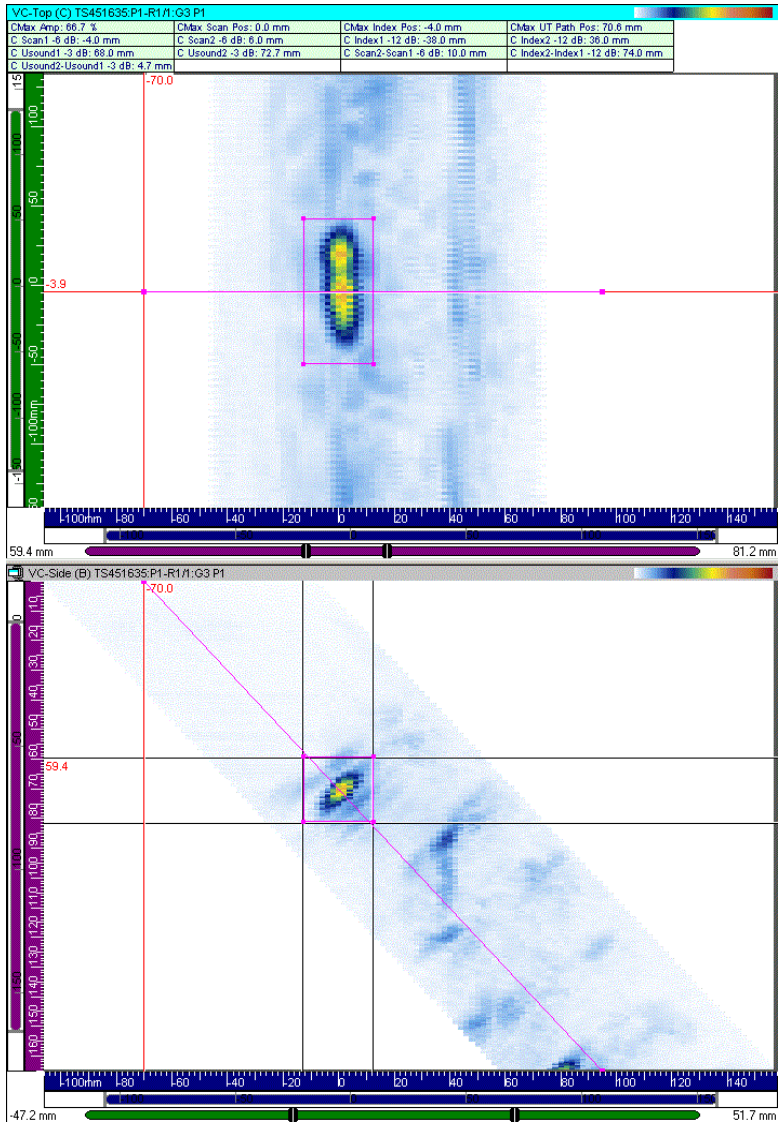

Figure 7-12 Examples of flaw indication sizing with the zone tool
5. Create a zone in the Side (B) view [End (D) view] containing the considered flaw indication.
6. Create a zone in the Top (C) view containing the considered flaw indication.
7. The zone in the Side (B) or End (D) view is automatically adjusted to the gate selector limits. In fact, you have now created a volumetric zone defined by the contour in the Top (C) view and the gate selectors in the ultrasonic axis (see Figure 7-12 on page 348). The parameters in the **Information Groups** dialog box give the maximum amplitude of the flaw indication, its position along each axis, and its size along each axis, with the user-defined amplitude drop value.